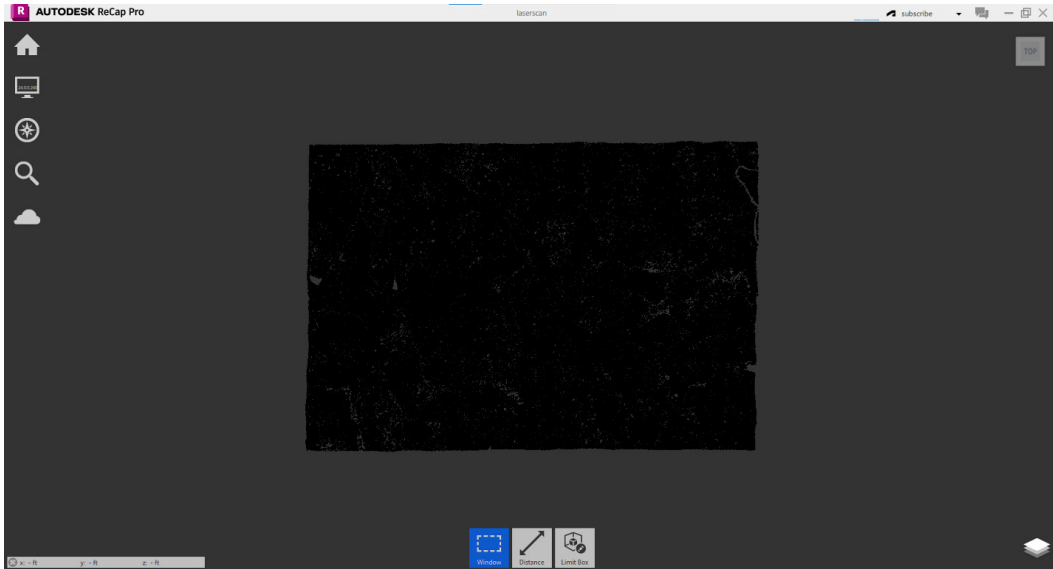

Figure 5.6 – Autodesk ReCap user interface
4. In *Figure 5.6*, we now see the user interface of a project. We should see a square conglomeration of dots in the middle of the screen. This is the point cloud, and we are looking at its visualization style, which always defaults to **RGB**, meaning the red, green, and blue colors are assigned to the points if they exist.